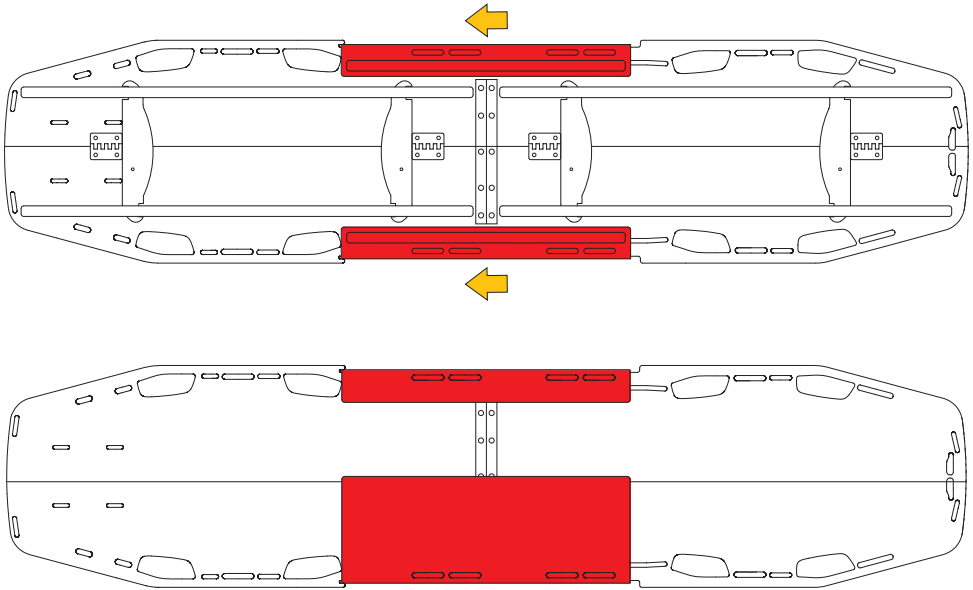

Fig.4
c) Slide the stiffening spars until they lock into the lateral grooves of the spinal board (fig. 4),